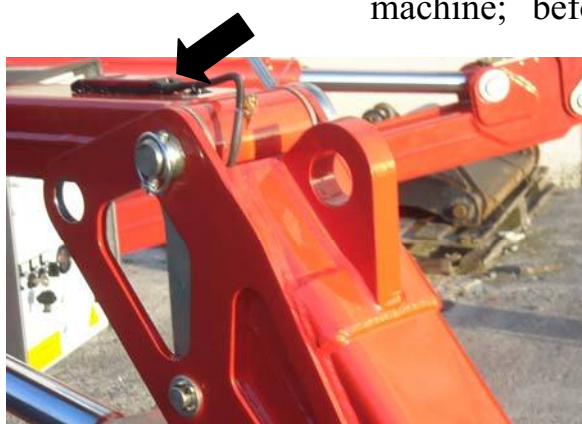

Fig. 3.13
- When the machine is leveled, the four light on the stabilizer (fig. 3.13) switch off. Attention! This do not ensure the correct levelling of the machine; before use the platform, check the correct levelling by means of the bubble on the frame.
When the pressure of one leg goes down to a minimum pre-set value, the red lamp mounted on this leg lights (fig.3.13) and, “liminator block” is displayed, at the same time, movements increasing working outreach are automatically excluded.